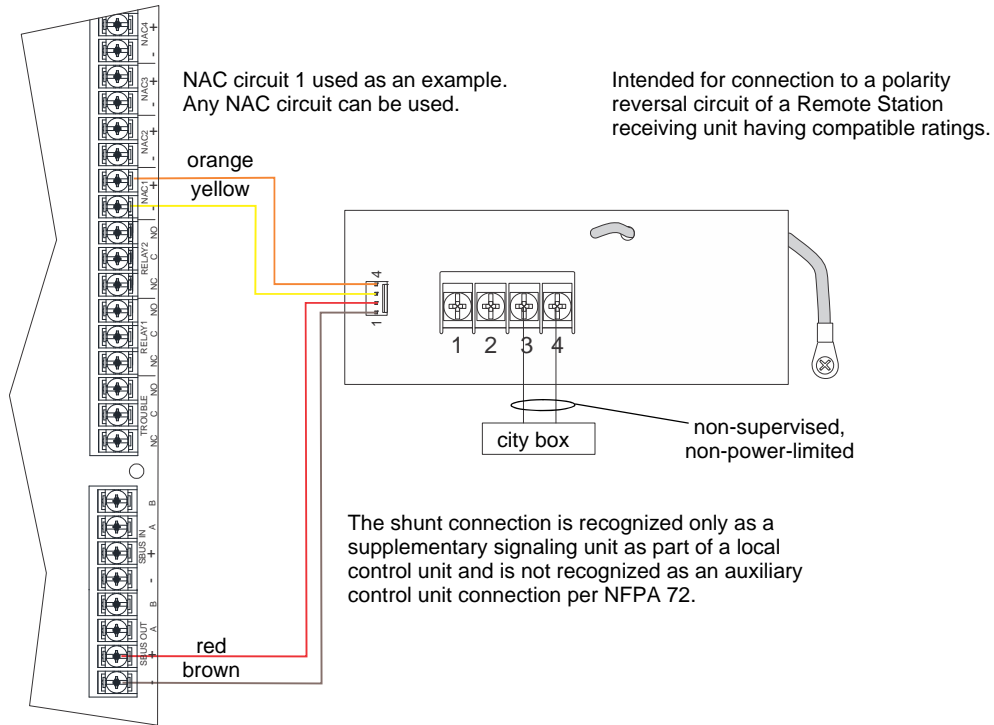

Figure 4.55 City Box Connection
2. Wire the 5220 to the control panel as shown in Figure 4.55. This drawing also shows how to connect the city box coil to terminals 3 and 4 on the 5220. Do not install an EOL resistor in the terminals of the Flexput circuit used for this application.